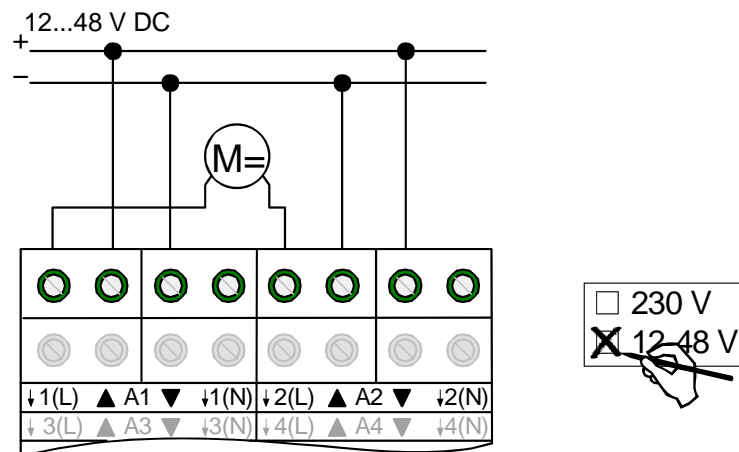

Fig. 4: Electrical connection for 12 ... 48 V drives
- Connect the drives as shown in Fig. 4 (wiring example).